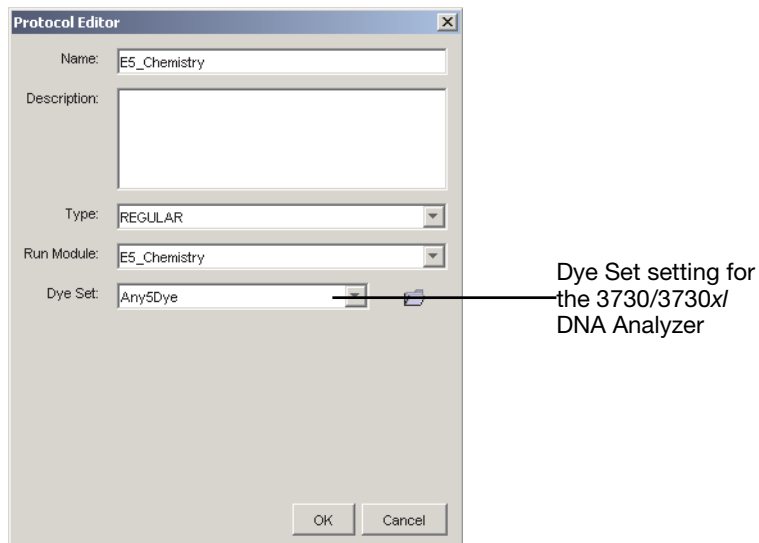
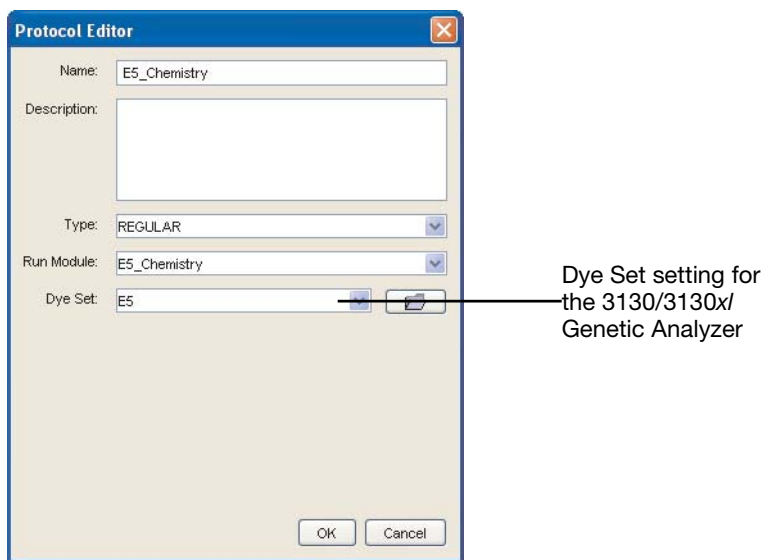

Figure 8 The Protocol Editor window in the Data Collection software on the 3730/3730xl DNA analyzer
Figure 9 The Protocol Editor window in the Data Collection software on the 3130/3130xl Genetic analyzer
2. Click the **New** button in the Instrument Protocols area. The Protocol Editor window opens (see Figure 8 and Figure 9 on page 10).